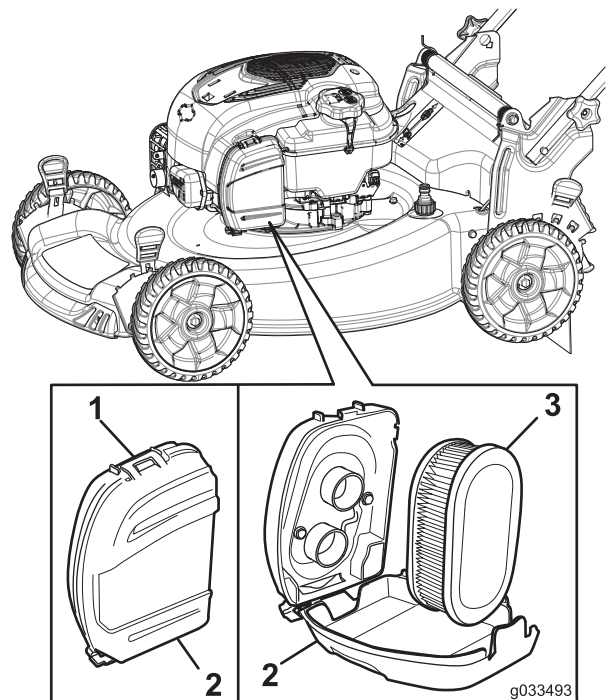

Figure 29
1. Upclip the top of the air-filter cover (Figure 29).
2. Remove the air filter (Figure 29).